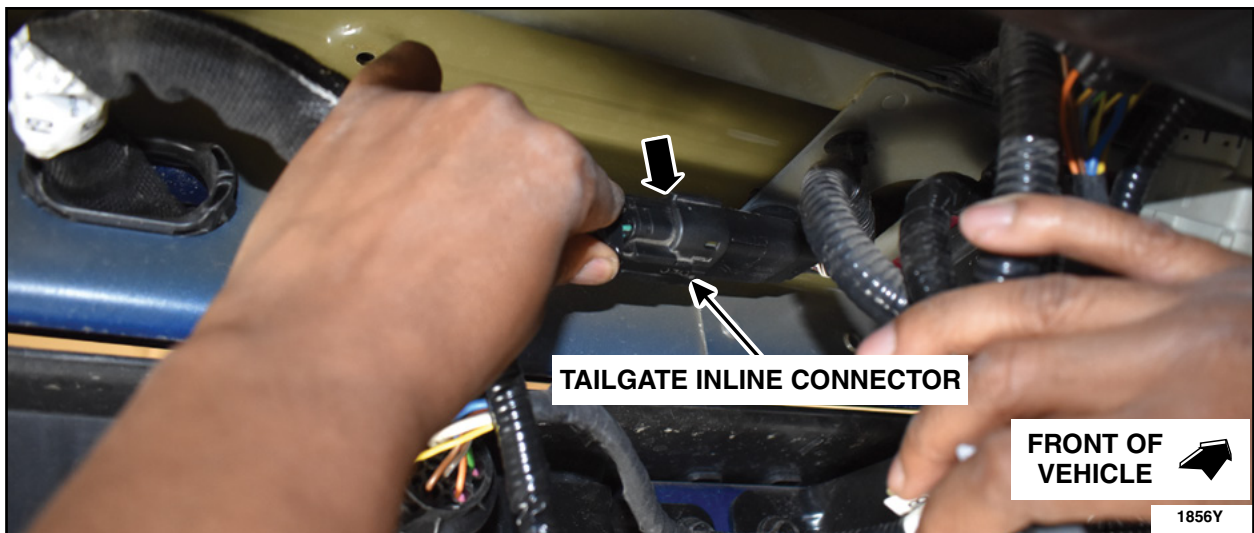

FIGURE 28
33. Connect the tailgate inline connector. See Figure 28.